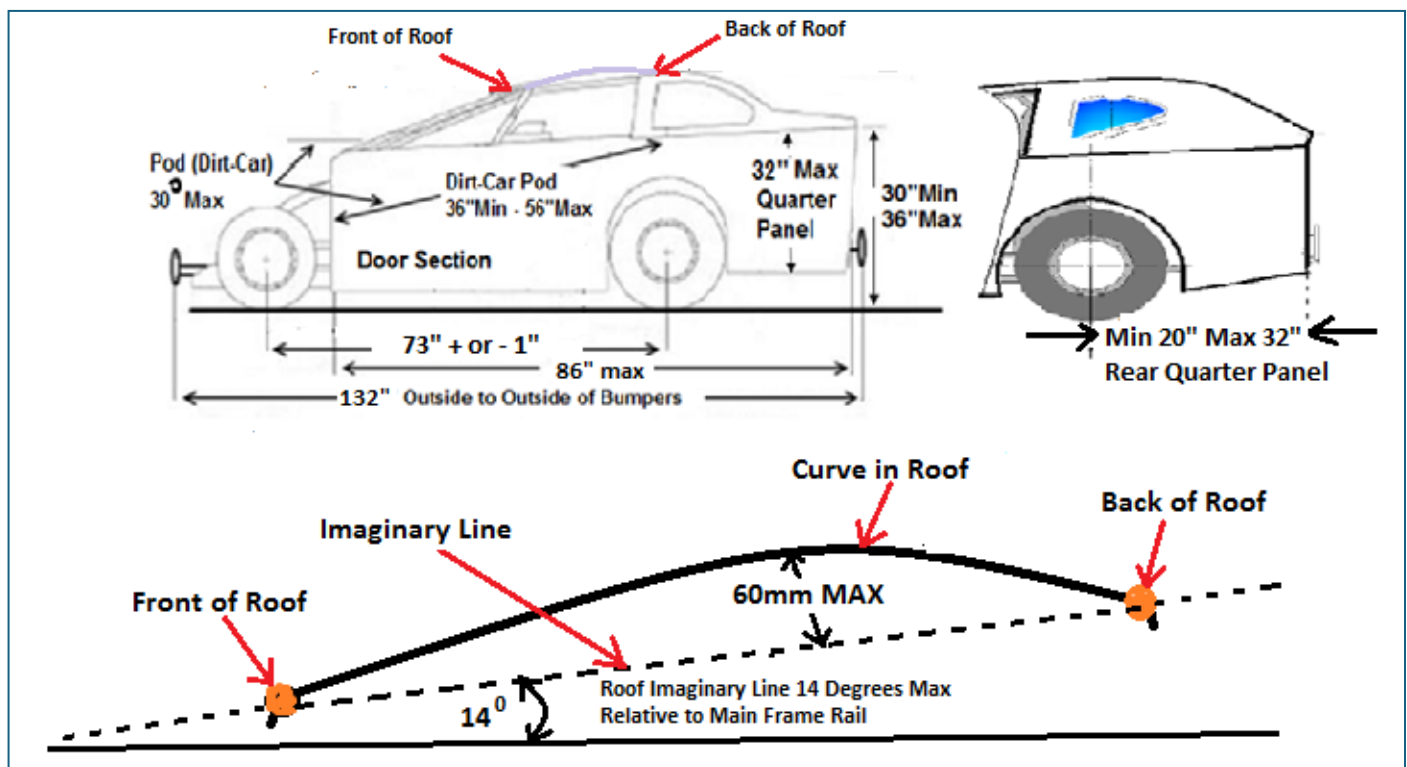

Figure 3
- 6.9** Wheelbase 73 inches +or- 1 inch. This means the wheelbase must not exceed 74 inches or be less than 72 inches (NO TOLERANCE). The wheelbase is the straight-line distance (parallel to the chassis rail) between the centres of the front and rear hubs with the front and rear tyres aligned parallel with each other on the side being measured. (*Figure 3 & 4*).
Front of door section to the rear most point of the quarter panel must not exceed 86 inches (*Figure 3*).
Side height of the top of rear quarter panel (deck lid) to the ground --- 30 inches min, 36 inches max (No tolerance) (*Figure 3*).
Max height of quarter panel 32 inches (No tolerance) (*Figure 3*).
Rear quarter length from centre of rear hub to rear of quarter panel must not exceed 20 inches min to 32 inches max (No tolerance) (*Figure 3*).
- 9.2 The top face of the roof panel must be transversely (across) flat in design. An imaginary line linking the front edge and rear edge of the roof panel must not exceed 14 degrees angle of rake relative to the frame rail (Figure 3). A longitudinally convex shaped roof is allowed with the curvature not to exceed a 60mm perpendicular distance from any point on the curve to the imaginary line linking the front edge and rear edge of the roof panel (Figure 3). No roof panel is to be concave in design. No upward facing deflectors of any type on upper side of the roof panel including front and rear edges.